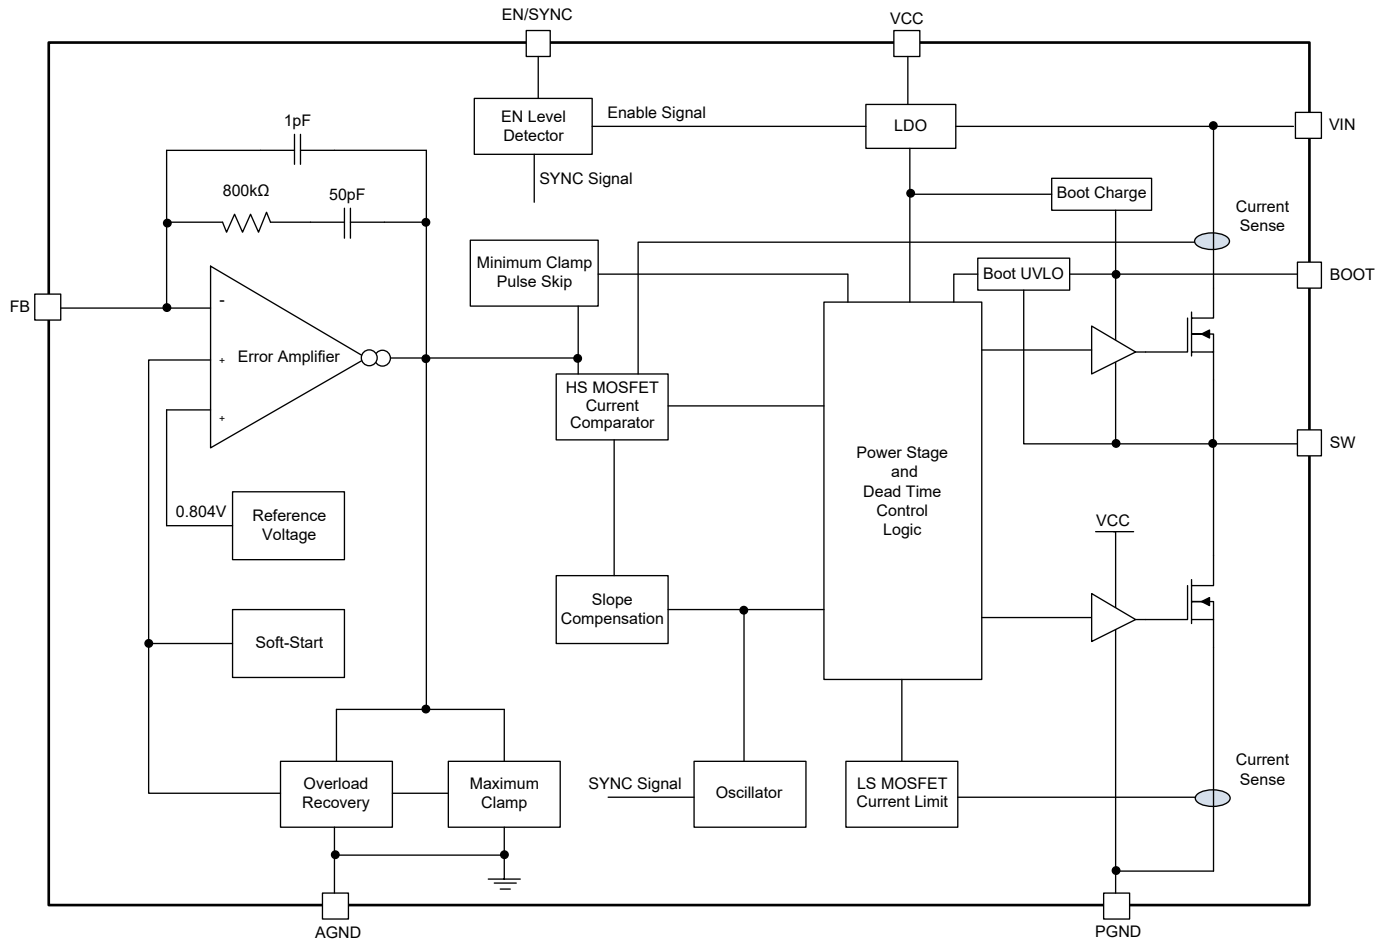
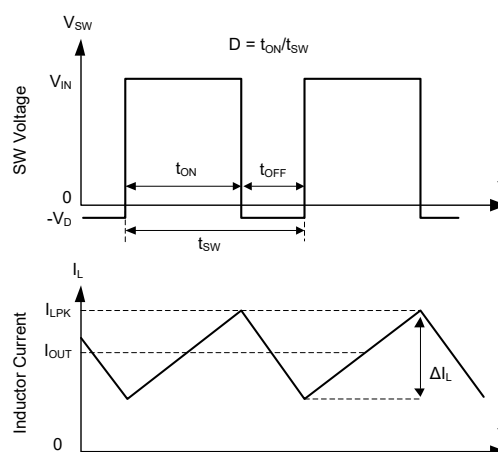
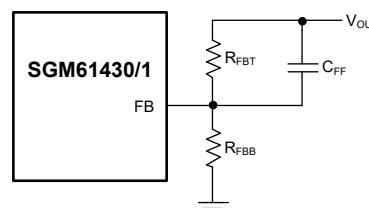

Figure 2. Block Diagram
Figure 3. Converter Switching Waveforms in CCM
Figure 8. Improving Loop Compensation by Feed-Forward Capacitor
The Functional Block Diagram and basic waveforms of these Buck synchronous converters are shown in Figure 2 and Figure 3. The N-MOSFETs are used for high-side (HS) and low-side (LS) (synchronous rectifier) switches. The HS duty cycle ( $D = t_{ON}/t_{SW}$ ) is controlled in closed loop to regulate and maintain the output voltage at a constant level. The switching period is  $t_{SW} = 1/f_{SW}$ , and the HS on-time is  $t_{ON}$ . When HS is turned on, the SW node voltage sharply rises towards  $V_{IN}$ , and the inductor current ( $I_L$ ) starts ramping up with  $(V_{IN} - V_{OUT})/L$  slope. When HS is turned off, the LS is turned on after a very short dead time to avoid shoot-through, and  $I_L$  ramps down with  $-V_{OUT}/L$  slope. When the inductor current is continuous (either due to sufficient load or FPWM), the output voltage is proportional to the input voltage and duty cycle ( $V_{OUT} = D \times V_{IN}$ ) if component parasitics are ignored.
The SGM61430 and SGM61431 are internally compensated (see Figure 2) and are stable over the entire  $f_{SW}$  and  $V_{OUT}$  operating range. However, the phase margin can be low for some ranges of  $V_{OUT}$  when low ESR ceramic capacitors are used in the output. In such cases, it is recommended to use a feed-forward capacitor ( $C_{FF}$ ) in parallel with the  $R_{FBB}$  to improve the transient response as shown in Figure 8.
The HS switch over-current protection is natural in peak current mode control. In each cycle the HS current sensing starts a short time (blanking time) after it is turned on. The slope compensation ramp is deducted from the EA (Error Amplifier) output to avoid sub harmonic oscillations and the result is compared to the HS current to determine the HS turn-off time (on-time). See Figure 2 for details. Before comparison, the EA output is clamped to a fixed maximum threshold ( $I_{HS\_LIMIT}$ ) to limit the current. So, the peak current limit of the high-side switch is not affected by the slope compensation and remains constant over the full duty cycle range.
An external resistor divider is used to set the output voltage as shown in Figure 8. Use Equation 13 to set VOUT: